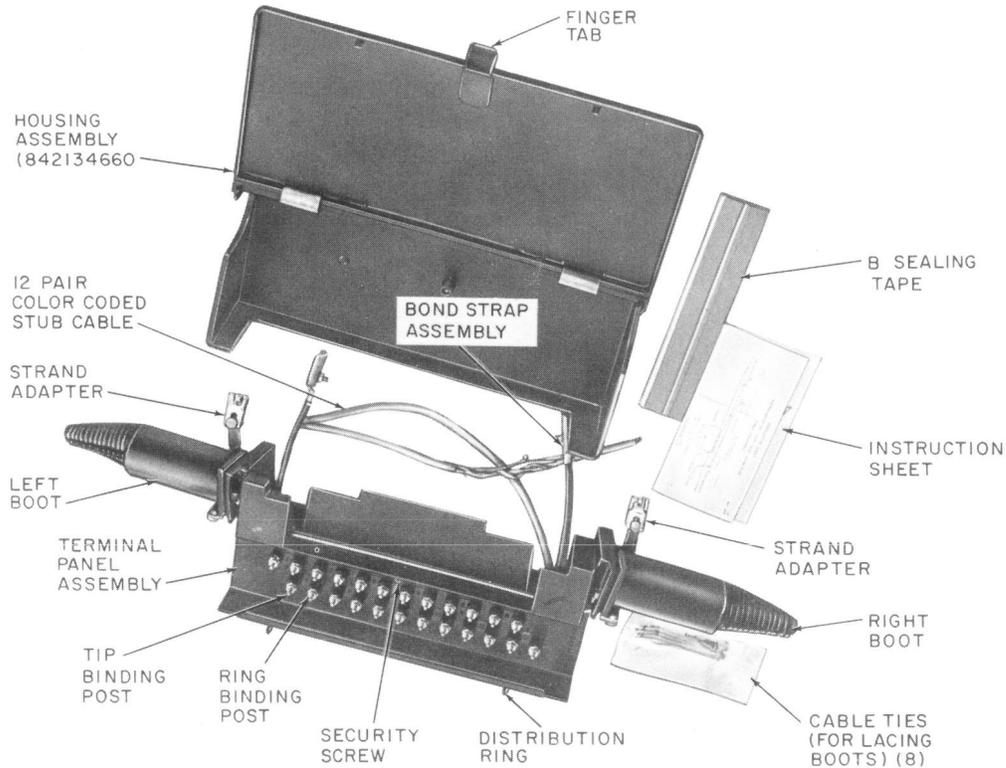

Fig. 1—104A2-12 Cable Terminal
2.01 Figures 1, 2, and 3 illustrate the 104A2-12, 105A2-25, and 105A1-25 cable terminals, respectively. Table A lists the 104- and 105-type cable terminals and their features.